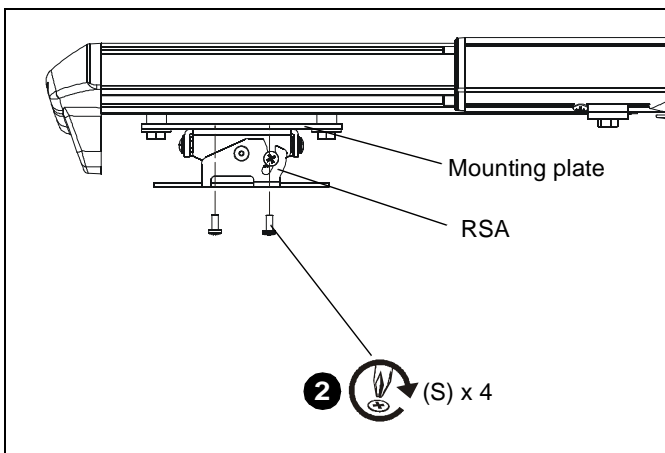

Figure 21
2. Install four #10-24 x 3/8" Phillips pan machine screws (S) through RSA holes and into projector mounting plate. (See Figure 21)